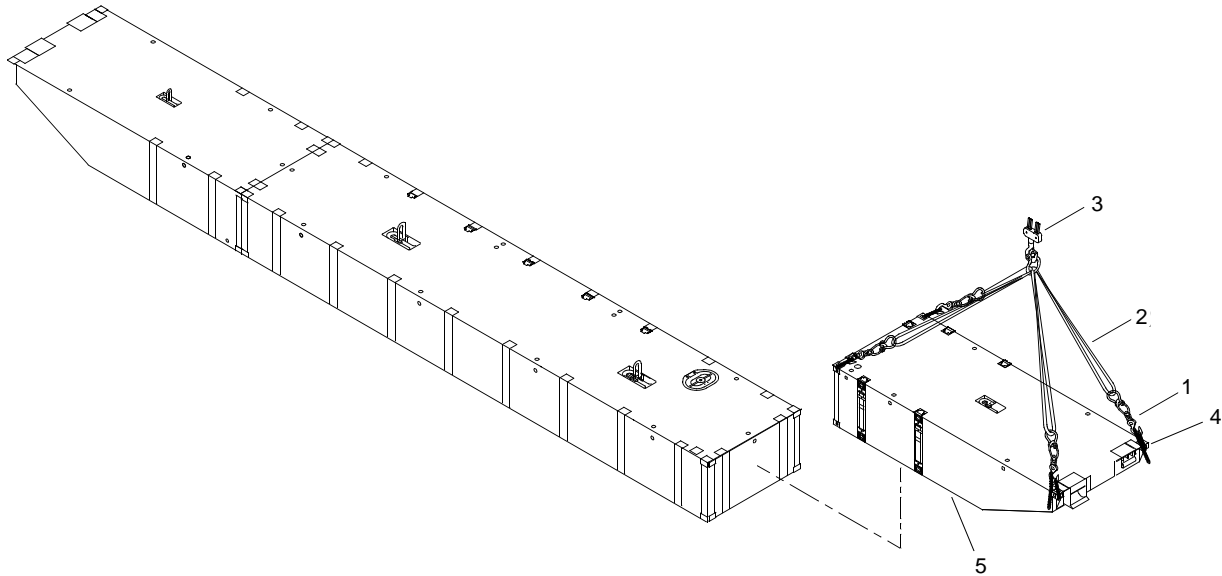

Figure 10. Assembly of Module Strings on Deck of Sealift Vessel
1. Attach four 36,000 lb adjustable chain slings (figure 10, item 1), four 8,400 lb slings (figure 10, item 2) and crane (figure 10, item 3) to ISO corner fittings (figure 10, item 4) on end rake module (figure 10, item 5).
2. Lift end rake module (figure 10, item 5).